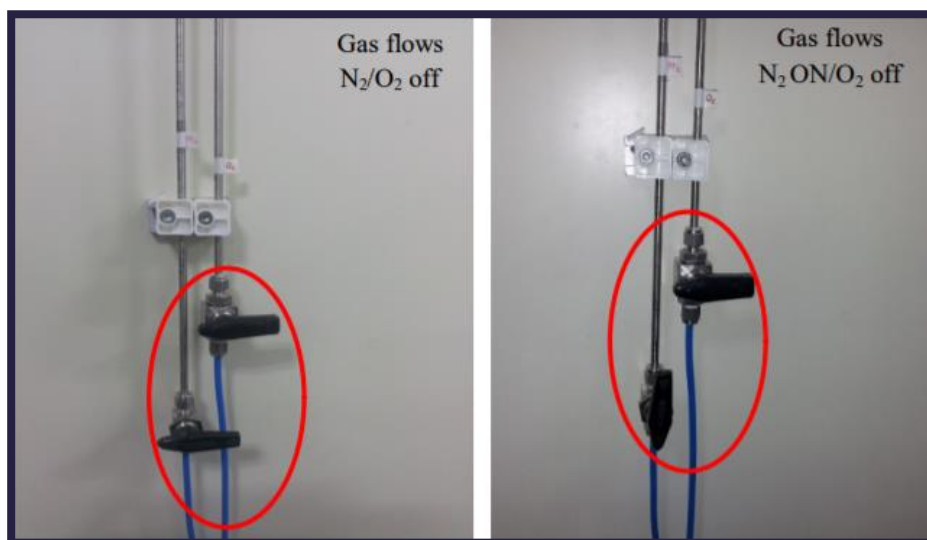

Figure.1
2. Start the appropriate gas flow by turning the valves, mounted on the wall behind the computer system, in downward direction (Figure. 1).
3. Start the gas flow through the flow-meters mounted on the system, by turning the appropriate (for N₂/O₂) valves in the direction indicated (Figure. 1).